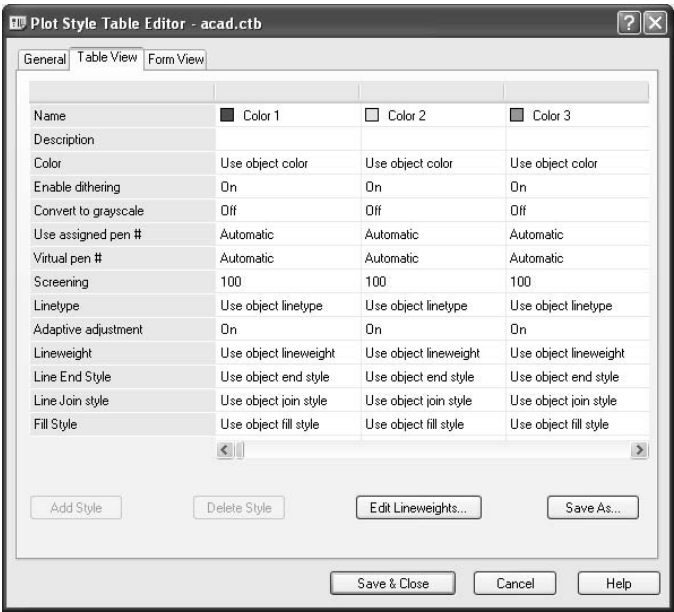

FIGURE 14.20: The Table View tab of the Plot Style Table Editor dialog box for the acad.ctb file
- Click the Table View tab (see Figure 14.20). Now you see the actual plot styles across the top and the plot style properties listed down the left side. This tab organizes the information like a spreadsheet. Use the scroll bar to assure yourself that there are 255 plot styles here. Notice that there are 12 properties for each plot style, plus a text box for a description. This tab displays the plot style information in a way that gives you an overview of the table as a whole.